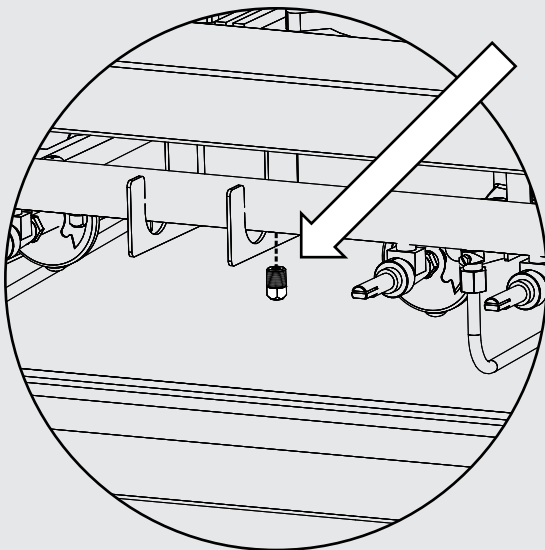
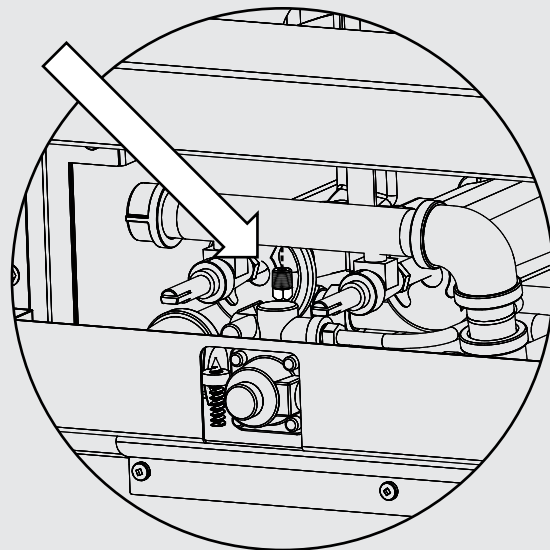

Figure 8
Figure 9
2. Unscrew the cap on the gas manifold and screw on the pressure gauge. **(Figure 8 and Figure 9)**